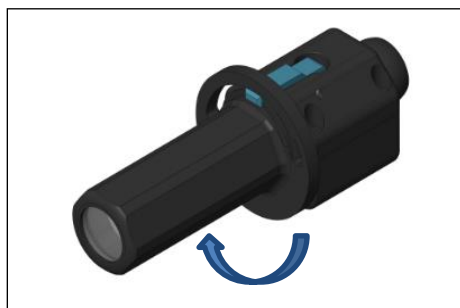

Figure 13.
- 9) Focus the light by rotating the light handle, as shown in Figure 13. Rotating away from the initial position shrinks the diameter of the light output, while rotating back to the initial position enlarges the diameter of the light output.